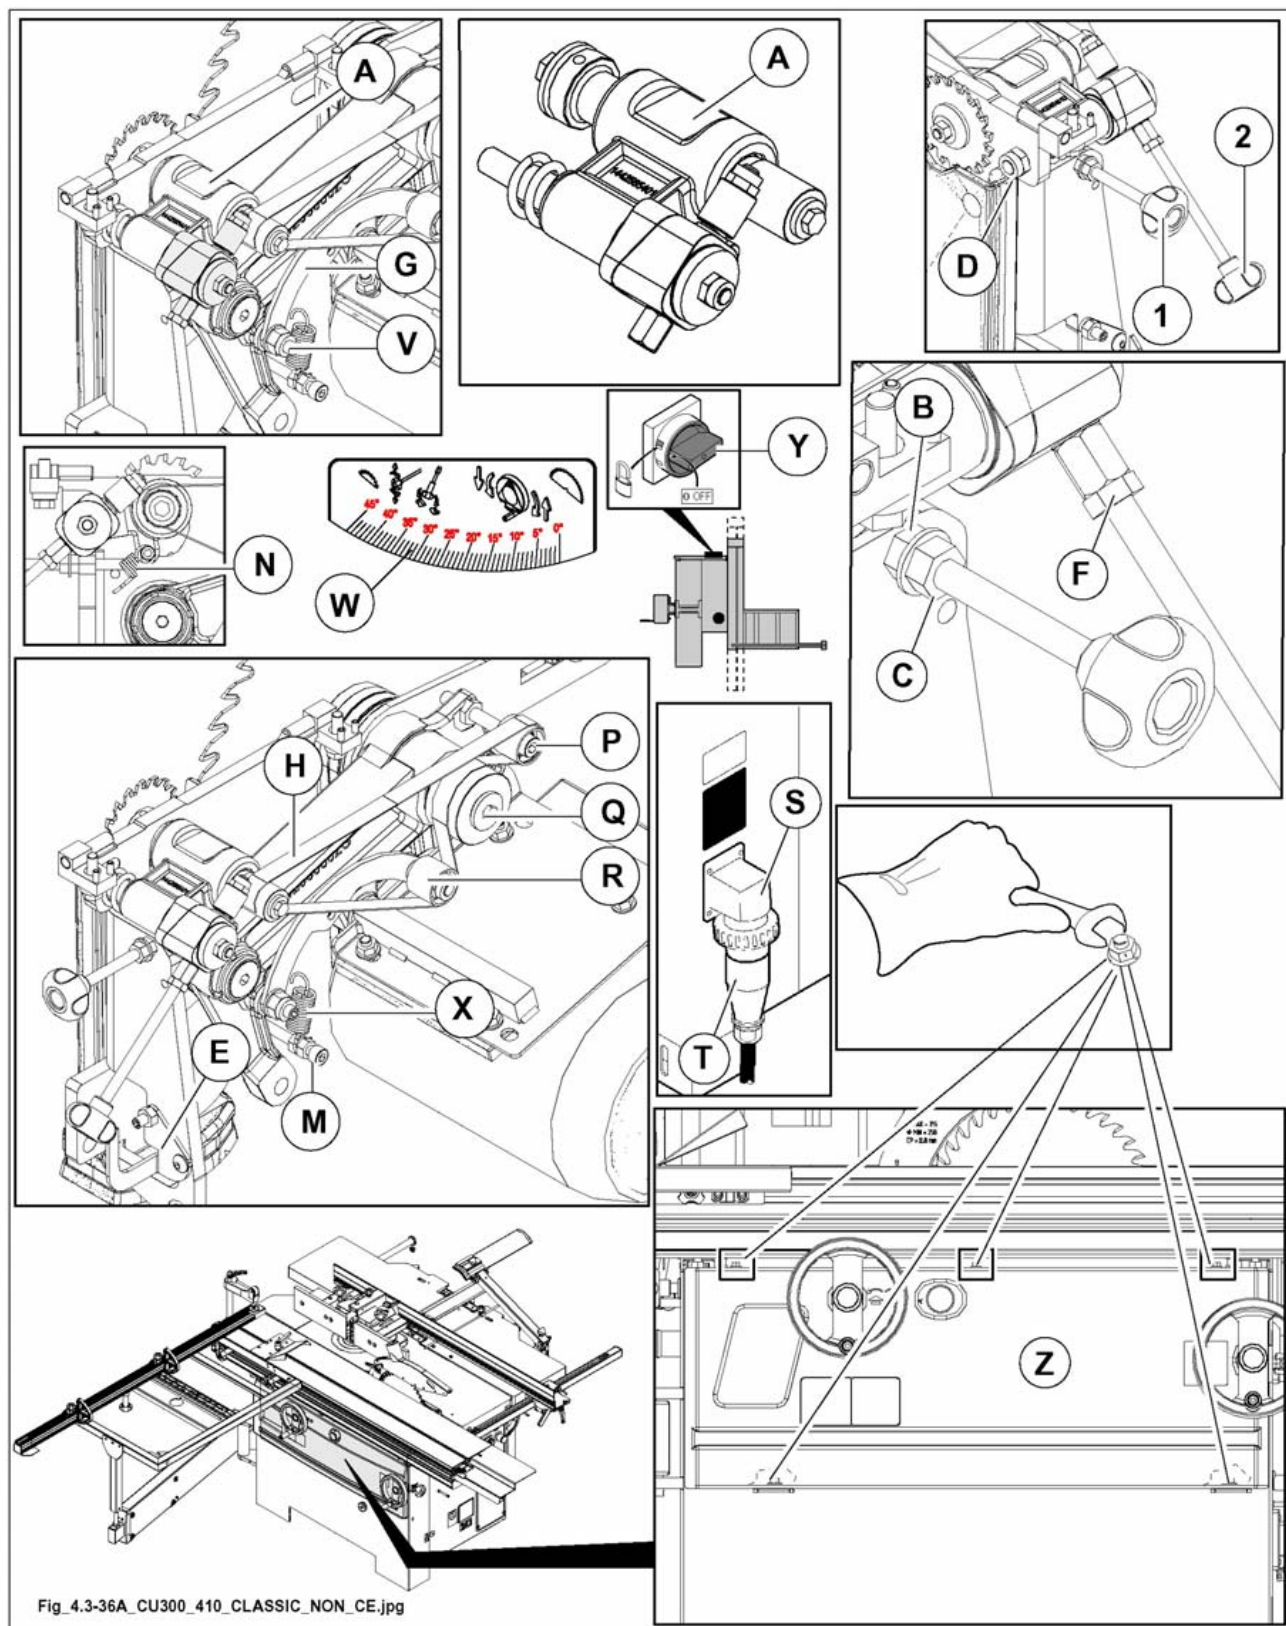

Fig. 4.3-36A
U.S.A. and CANADA version:*before carrying out maintenance operations, adjustments or to dismount any machine member turn main switch (Y fig. 4.3-36A) to 0, lock it then indicate this with a sign.*
- Disassemble the front guard (Z fig. 4.3-36A).
- Fit the unit (A fig. 4.3-36A).
- Tighten the nut (D fig. 4.3-36A) to lock the scoring saw unit (A fig. 4.3-36A).
- Remove the part (E fig. 4.3-36A) and the plate (S fig. 4.3-36A)
- Fit the lift knob (1 fig. 4.3-36A) and the transfer knob (2 fig. 4.3-36A).
- Fit the spring (N fig. 4.3-36A) on the scoring saw unit .
- Install the pulley (P fig. 4.3-36A) on the saw arm.
- Install the pulley (Q fig. 4.3-36A) in the saw shaft.
- Fit the bracket-pulley unit (belt tightener) (G fig. 4.3-36A), on the saw arm, securing it with the screw (V fig. 4.3-36A) but not actually locking it.
Check that pulleys (P fig. 4.3-36A) and (R fig. 4.3-36A) are perfectly in line with pulley (Q fig. 4.3-36A) and if necessary place spacers between them.
- Fit the scoring saw tensioning spring (X fig. 4.3-36A) hook up screw (M fig. 4.3-36A).
- Fit belt (H fig. 4.3-36A) positioning it along the route shown in the figure.
- Fit the front guard (Z fig. 4.3-36A).
- Fit the new plate (W fig. 4.3-36A) and reposition the part (E fig. 4.3-36A).
*Fit the lift knob (1 fig. 4.3-36A) and adjust it using the nuts (B, C fig. 4.3-36A) as indicated below:
Screw on the knob (1 fig. 4.3-36A), raise the scoring saw blade until it projects over the work table by 3 mm. Move the nut (B fig. 4.3-36A) up to the stop on the saw bracket and then lock it in place with the nut and washer (C fig. 4.3-36A).*
Fit the transfer knob (2 fig. 4.3-36A) and lock it in place with the nut (F fig. 4.3-36A).
belt is assured by the spring (X fig. 4.3.36A) and it does not require any adjustment.